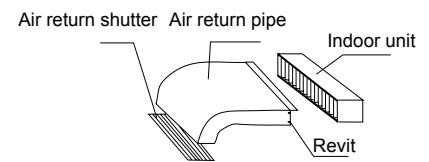

Fig.1
- (1) Cut a hole in the wall and insert connection pipe and connecting wires through a locally purchased PVC pipe. The hole should be inclined slightly downward with an inclination of at least 1/100 (see Figure 1).
- (2) Before cutting the hole, ensure no pipe or rebar is placed behind the cutting position. Avoid cutting a hole at the place of wires or connection pipes.
- (3) Hang the unit on a horizontal and firm roof. If the unit base is not stable, it may cause noise, vibration or leakage.
- (4) Support the unit firmly and change the shapes of connection pipe, connecting wires and drain pipe to make them easily get through the hole.
2. Installation of the air return pipe: Connect one side of the air return pipes to the air return port of the indoor units with rivets, with the other side connected to air return shutter, as shown in Fig.1.